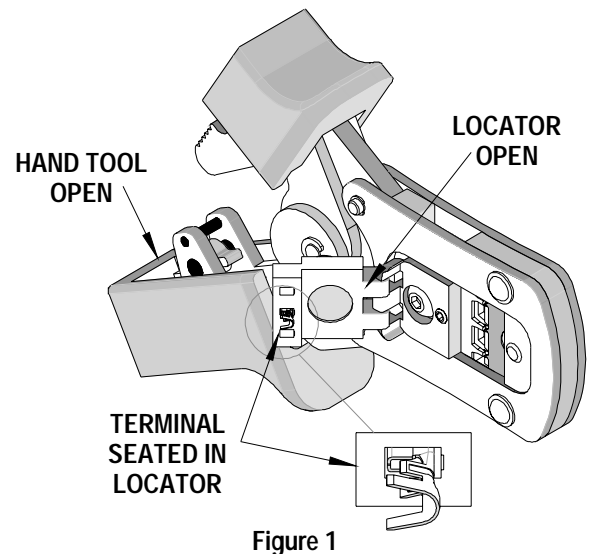

Figure 1
1. With the hand tool in the open position, pivot the terminal locator open. See Figure 1.